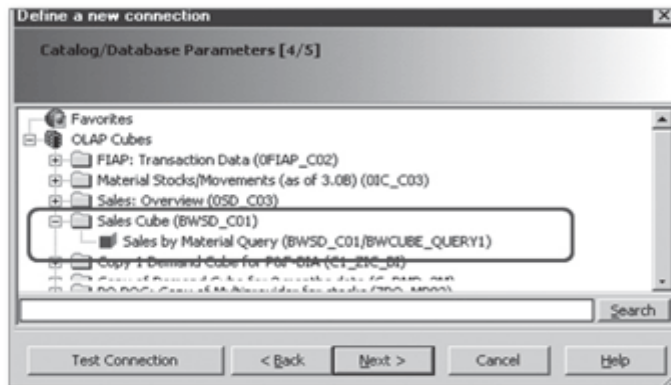

Figure 13.16 Select BEx Query from the Catalog
2. Select a BEx query from the catalog, as shown in Figure 13.16.